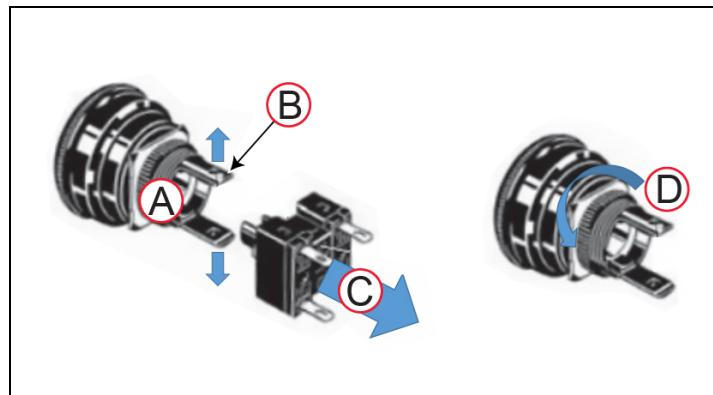

Figure 9-10 Removing the E-Stop Button
3. On one side of the AMR, remove the E-Stop button from its bracket as shown in Figure 9-10. Use your fingers or a flat-blade screwdriver to gently spread the prongs on the rear side of the E-Stop (A) and remove the E-Stop latch button (B) from the switch body (C).
4. Unscrew the threaded locking ring (D) and remove the button from the AMR. Leaving all cabling in place.
4. Referring to Figure 9-10, insert the button into its mount and tighten the locking ring (D) to retain it in place. Push the switch body (C) onto the E-Stop button (A) until the prongs (B) click into place. Pull on the switch body to make sure that it is connected.